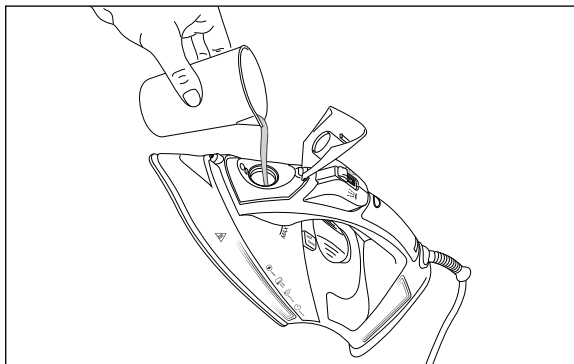

Fig. 4
- 3) Fill the measuring cup **15** with tap water or distilled water. Use the measuring cup **15** to fill the water tank **18** (see Fig. 4).